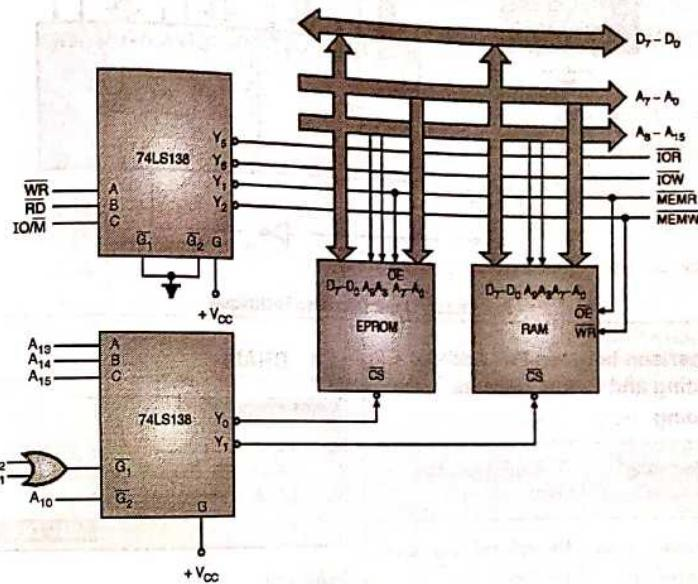

Fig. 11.3.1 : Absolute Decoding Technique / Full Decoding
- Fig. 11.3.1 shows the memory interface with absolute decoding technique.